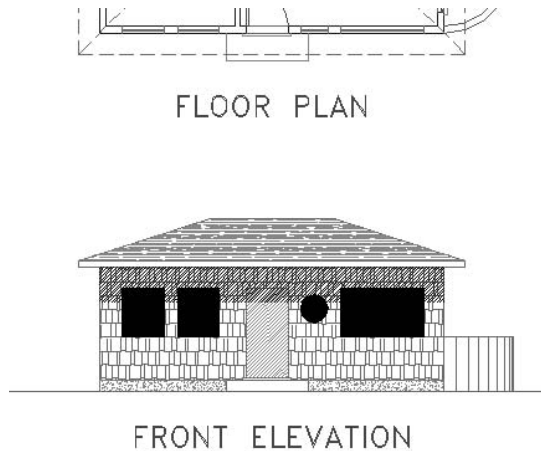

FIGURE 10.5: The drawing with the titles complete
13. Offset the ground line of the elevation down 4'. Start the Dtext command again, and repeat steps 4 through 12, this time entering **front elevation** (again with Caps Lock on). When finished, erase the offset lines and the vertical guideline. Your drawing will look like Figure 10.5.